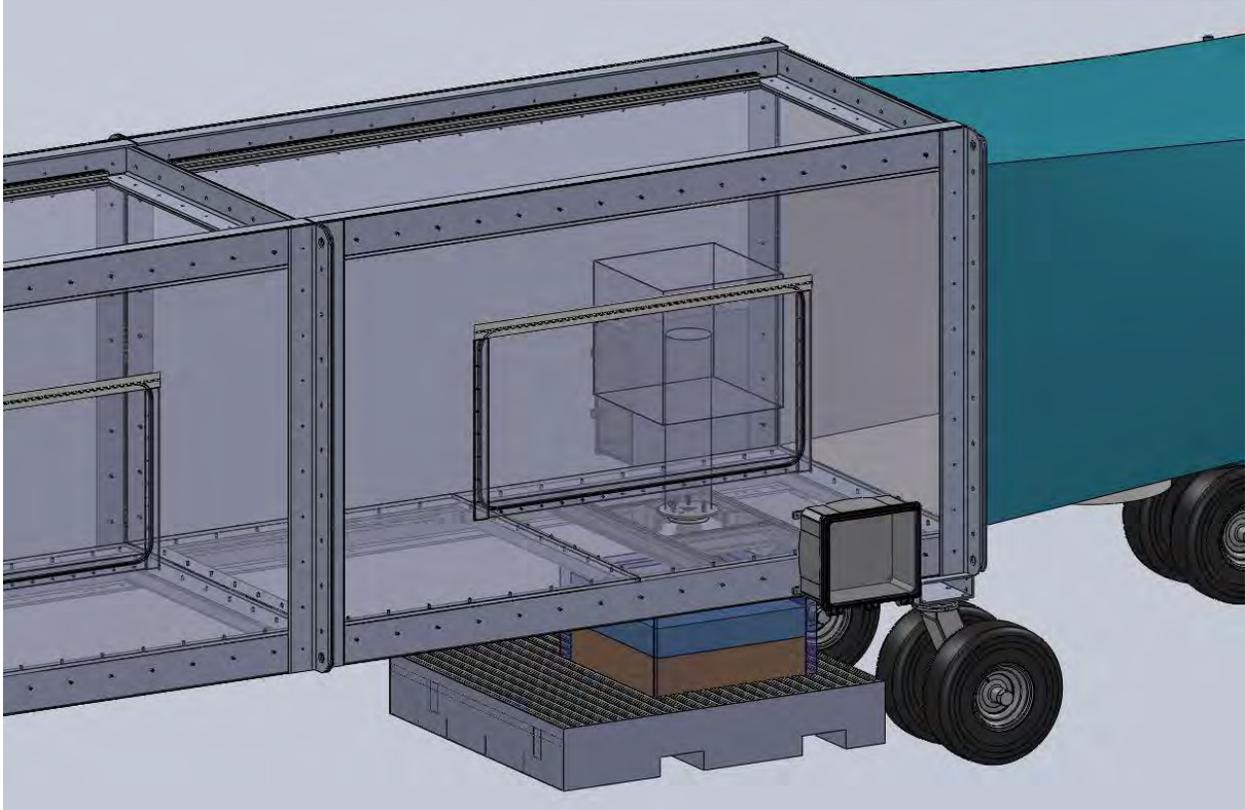
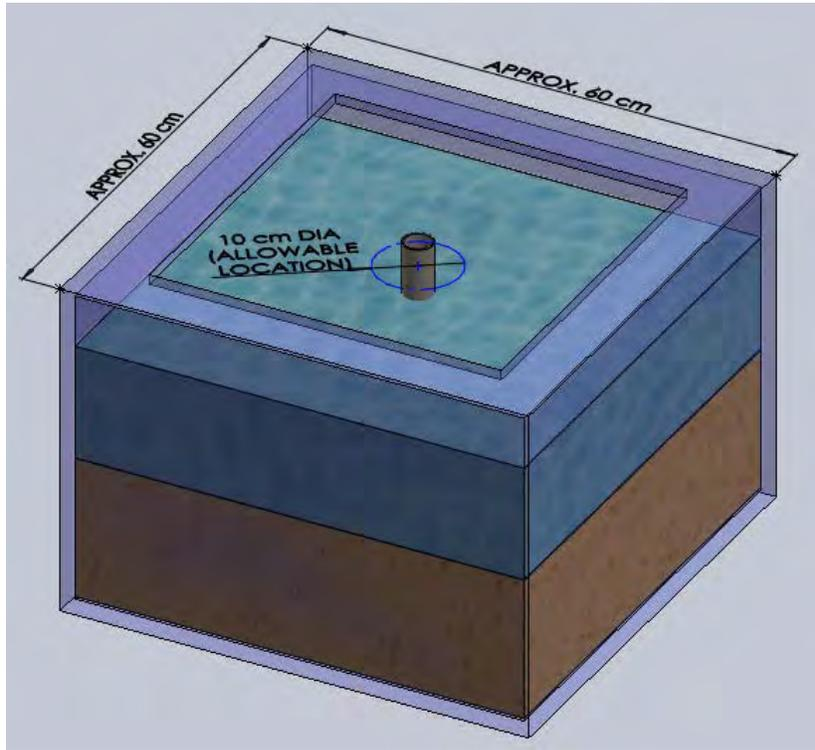
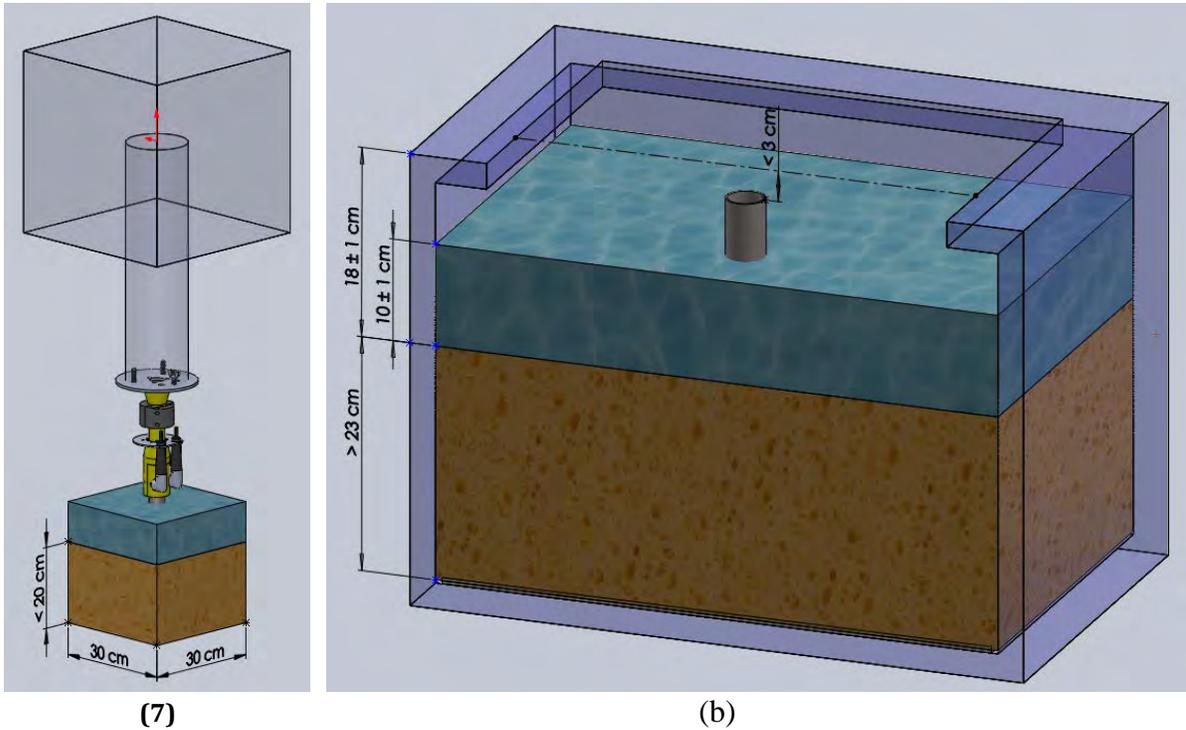

Figure 4. Offshore simulation tank underneath the competition wind tunnel. *Image created by Jason Roadman, NREL*
Figure 5. Offshore simulation tank. Image created by Jason Roadman, NREL
Figure 6. (a) Turbine, structure, and anchorage allowable volumes and (b) tank layout. Image created by Jason Roadman, NREL
- **The foundation structure and anchorage will be a primary focus of the competition and its theme.** Students must design a structure to be installed into a water tank with a sand bed to simulate shallow-water, fixed-bottom offshore foundations. This foundation structure will be the sole source of support for the wind turbine. See Figure 4, Figure 5, and Figure 6.
- The maximum horizontal dimensions of the structure and anchorage shall not exceed a projected square area of 30 cm on each side, as shown in Figure 6. **Note that this area is centered on the foundation structure top tube.** These dimensions will be verified during the safety and tech inspection portion of the competition by placing the assembled structure with anchor(s) in their deployed position entirely within a box of these dimensions. The box will be centered on the foundation tubing using a hole in its top.
- Students must assemble their foundation structure and anchorage such that the tubing at the top falls horizontally within a specified 10-cm circle within the tank (see Figure 5).